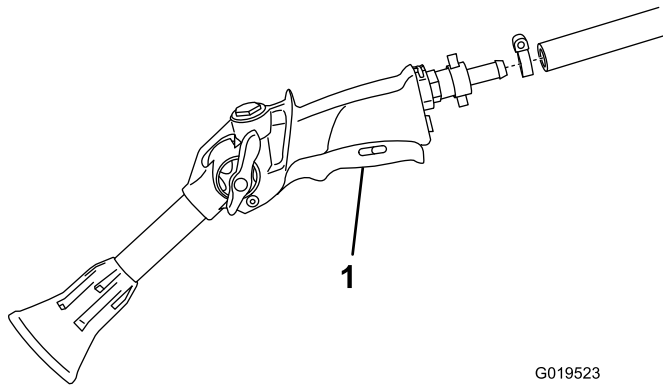

Figure 6
1. Connect the free end of the spray gun hose to the fitting on the spray gun (Figure 6).